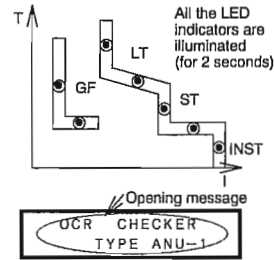
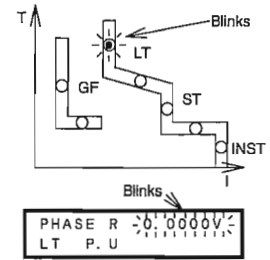

Fig. 10 Display appearing when the ANU-1 is turned ON
Fig. 11 Display appearing 2 seconds after the ANU-1 has been turned ON
(1) Press the POWER switch (Ⓞ in Fig. 9) to turn ON the OCR checker. All the LED indicators (Ⓟ in Fig. 9) will be illuminated for 2 seconds with the opening message appearing on the LCD (Ⓢ in Fig. 9) (See Fig. 10). Check that all the LED indicators are illuminated (the LED indicators are normal). Two seconds later, the indications will change to the state shown in Fig. 11. Now various settings are possible.
- If the OCR checker is turned ON after it has been turned OFF by the auto power-off function, the indications shown in Fig. 11 will not appear, but those shown just before the auto power-off will appear. The auto power-off function automatically turns OFF the power when (a) the OCR checker is operated with built-in batteries, (b) no output signal is output, and (c) no switch has been used for 1 minute or more.
(2) The phase display mode of the OCR checker defaults to "R, S, T". It can be changed to "A, B, C" or "1, 2, 3" using the following procedure.